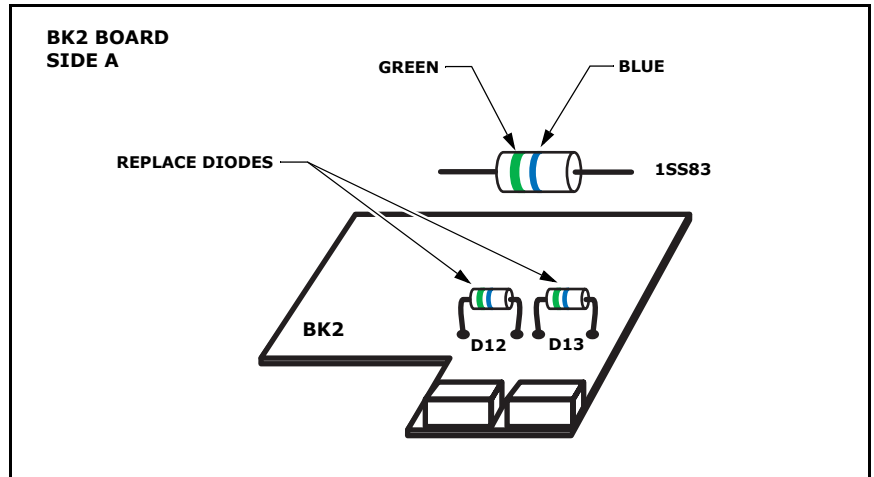

Figure 1
1. Replace D12 and D13 with new 1SS83 diodes. (See Figure 1.)